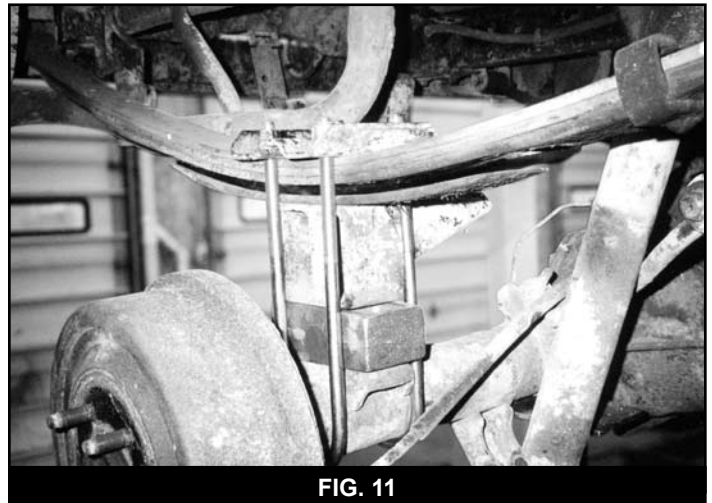

FIG. 11
6. Place the new block between the axle pad and the existing block. The smaller tapered end of the block should face the front of the vehicle. (Fig. 11)